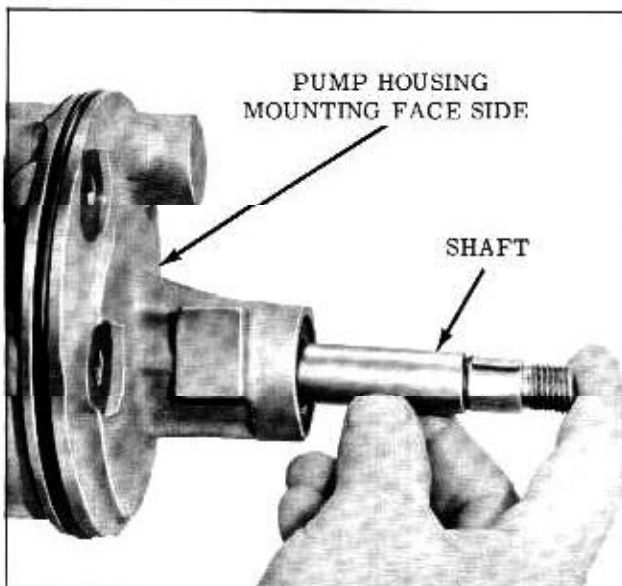

Fig. 4-58 Installing Shaft
1. Insert shaft at hub end of housing, spline end entering mounting face side. (Fig. 4-58)